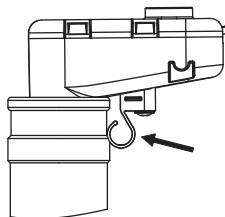

Figure 13a
- Make sure that the shutoff is securely latched (fig. 13a, 13b).